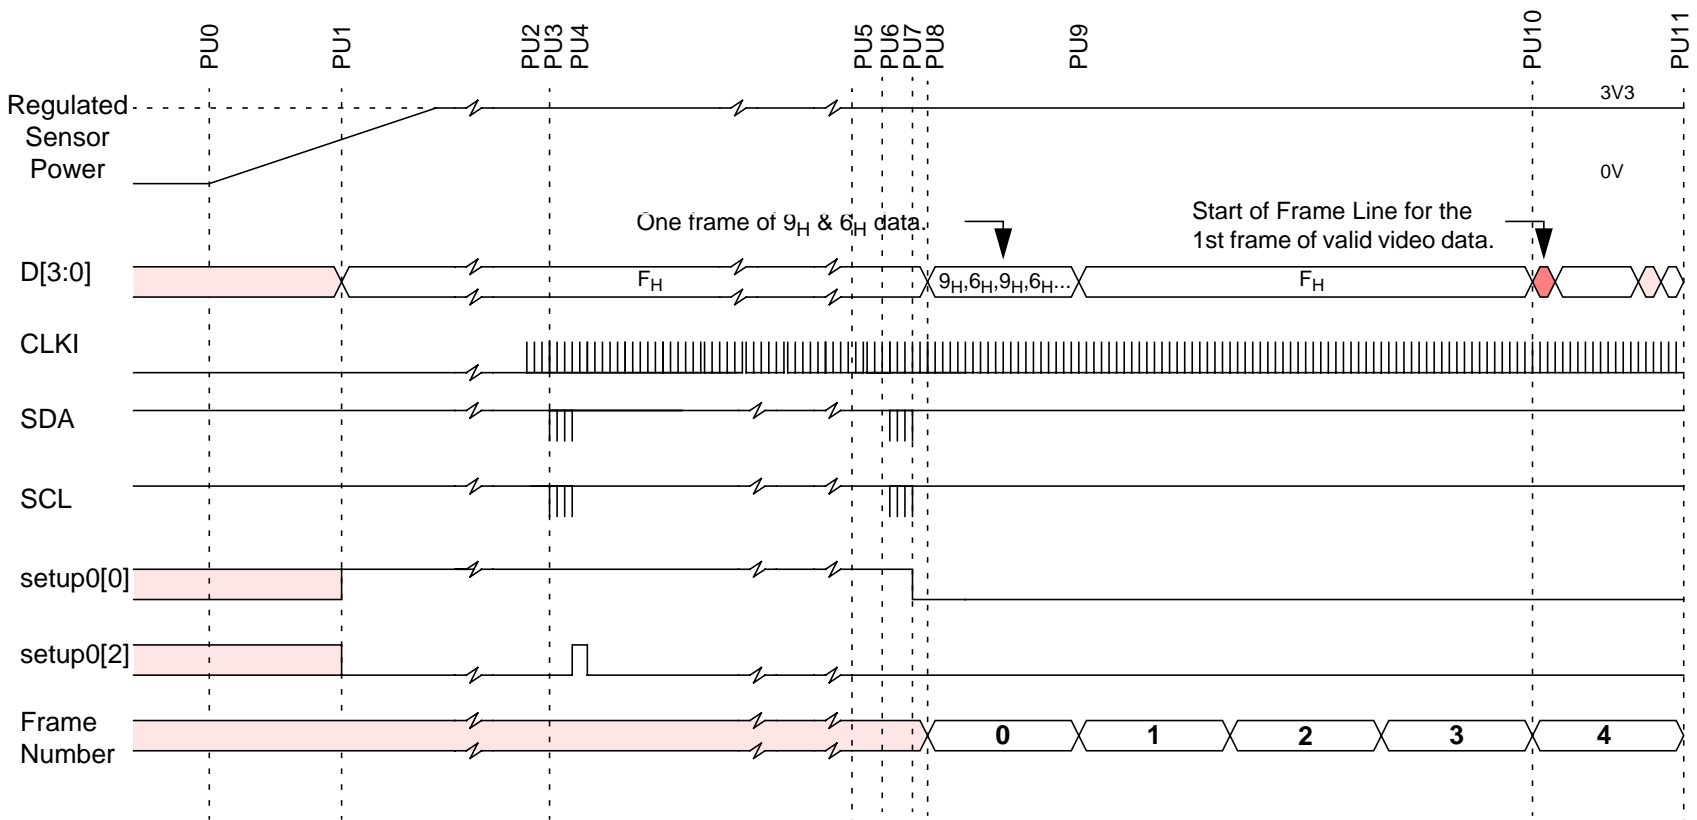

Figure 29 : Typical System Power-Up Procedure
8.8.1 Power-Up/Down (Figure 29)